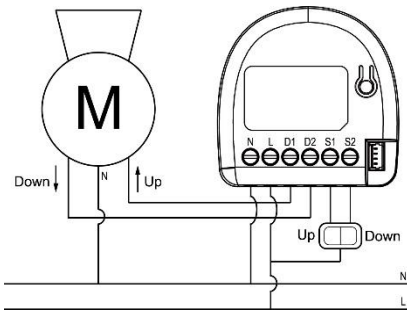

Figure 1. Roller Shutter wiring diagram
2. Connect the motor of Roller Shutter and Switch in accordance with the wiring diagram presented on Fig. 1 (roller blinds, venetian blinds).